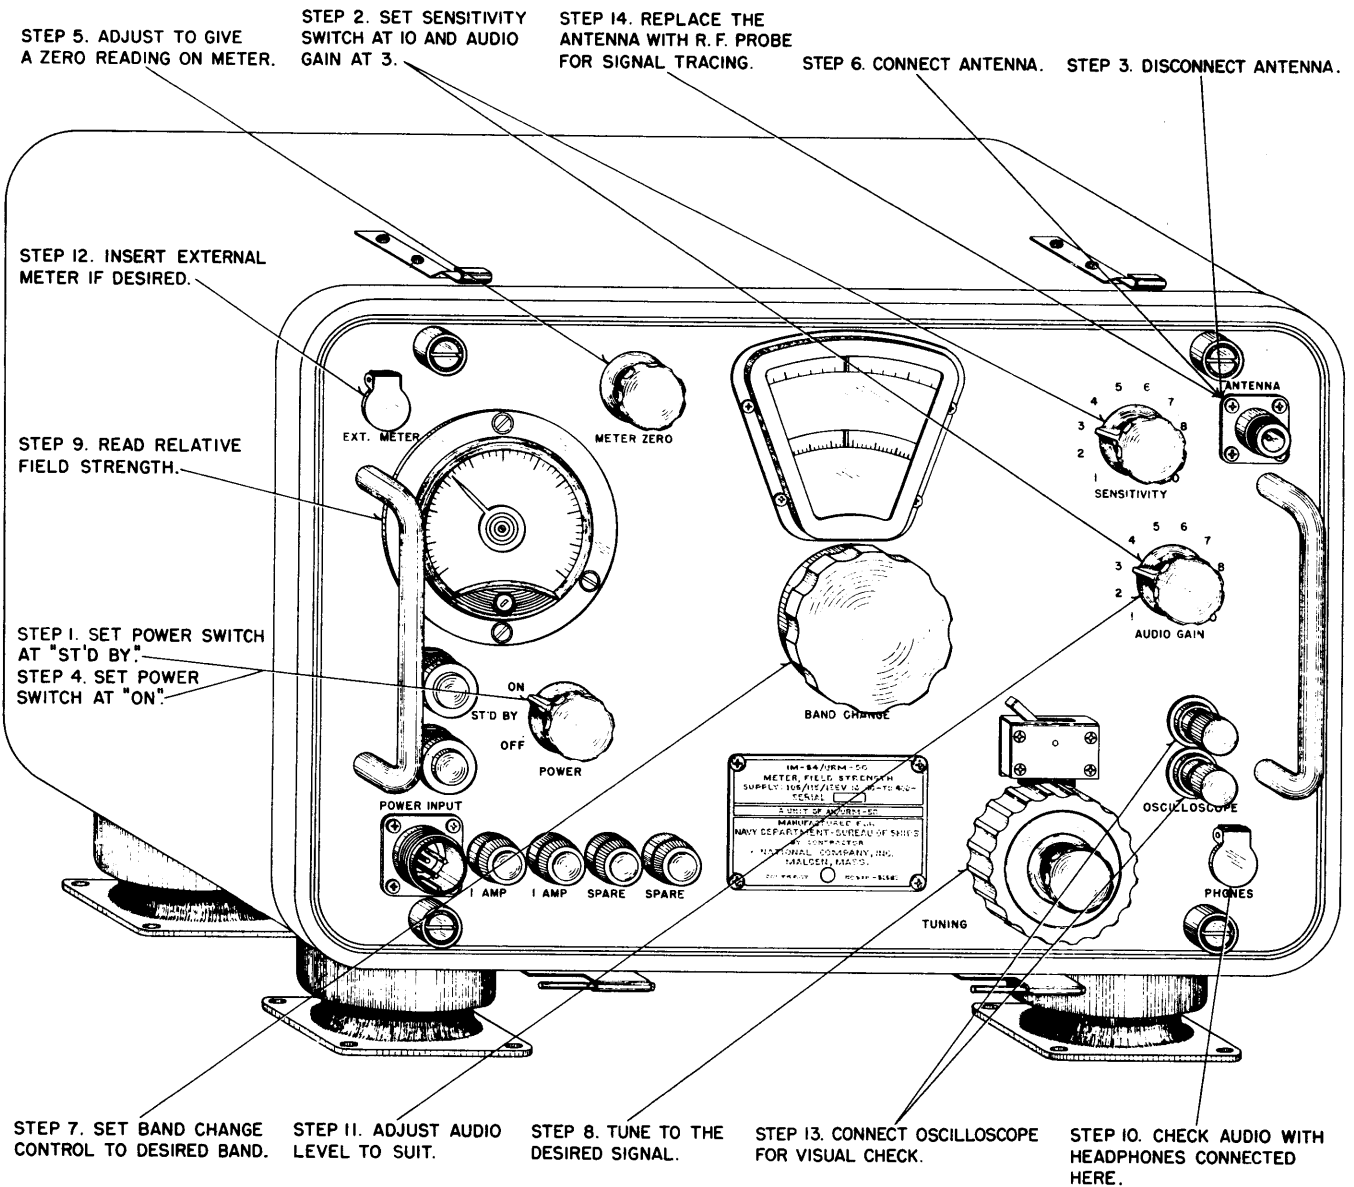

Figure 4-2. Operating Instructions, Field Strength Meter IM-84/URM-50
a. OPERATING THE FIELD STRENGTH METER AS A MONITOR.—The following instructions are visually shown in brief on Figure 4-2.